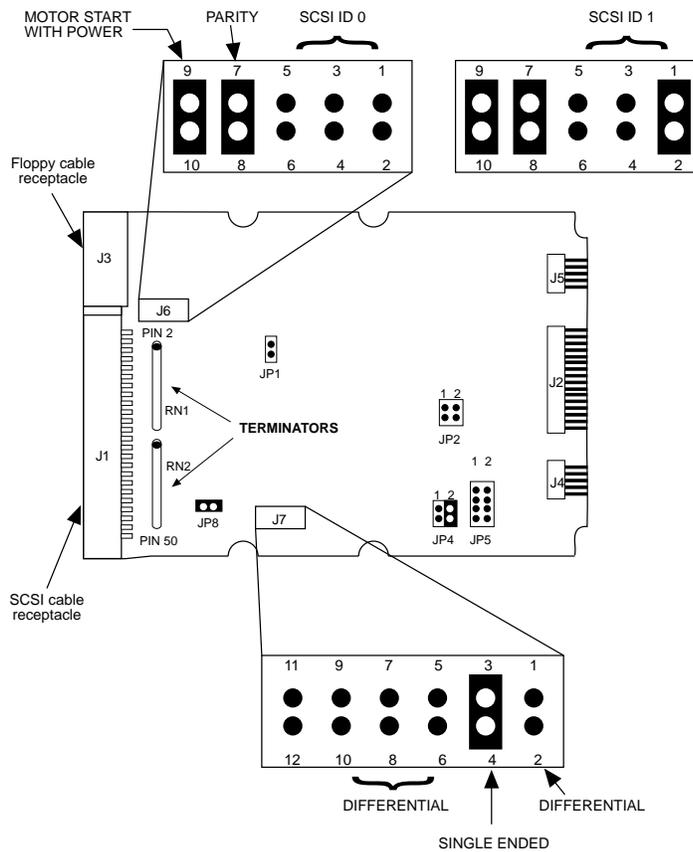

Figure 10-3. Jumper Settings for the 1.2-Gbyte SCSI Hard Disk Drive
- **1.2-Gbyte SCSI disk drive** — Refer to Figure 10-3 for the jumper settings.